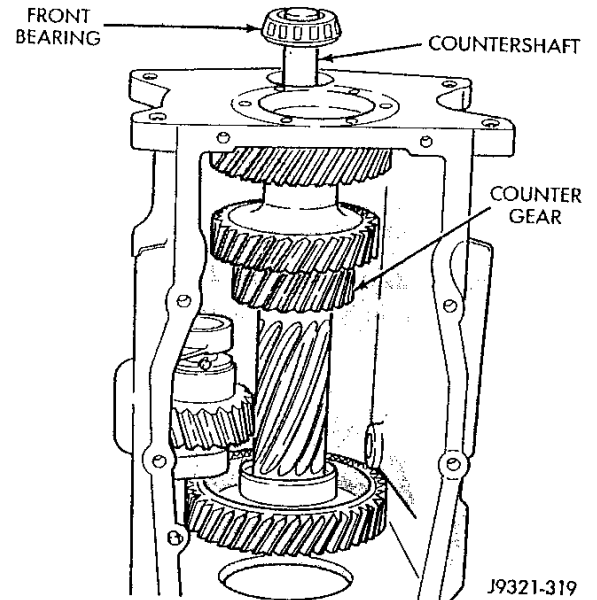

Fig. 57 Countershaft And Gear Installation
(1) Place gear case in upright position. Front bearing retainer/input shaft bore should be facing up (Fig. 57).
(2) Slide counter gear into position in case (Fig. 57).
(3) Install front bearing and bearing snap ring on countershaft (Fig. 57).
(4) Install countershaft in gear and seat shaft front bearing in case (Fig. 57).